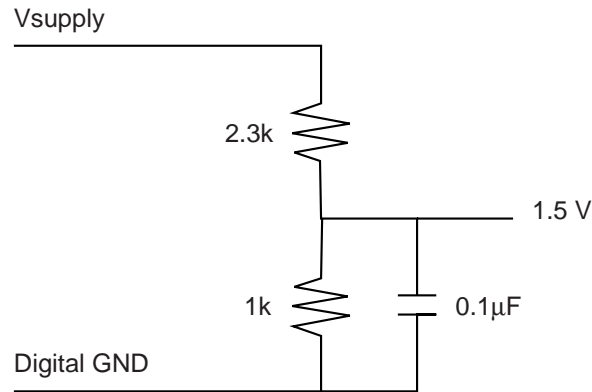

Figure 1: Circuit for generating a 1.5 V reference for the complementary inputs ϕ_0 and ϕ_{90} .
6. Once you have your circuit working properly, we ask you to interface it to the dSPACE board, through its encoder inputs. These inputs are defined in the dSPACE manual and are labeled as Phi0 1 and Phi90 1. Since the board provides for differential encoder inputs (for noise immunity) and our circuit is single ended, you will need to provide a 1.5 V reference to the complementary inputs /Phi0 1 and /Phi90 1. See Fig. 9.1.1 on pg. 49 in the DS1102 User's Guide and also the information on pg. 57 in this guide. We have included a schematic for this connection in Figure 1. You will need to feed the *debounced* A and B inputs to the dSPACE board so that it counts properly.